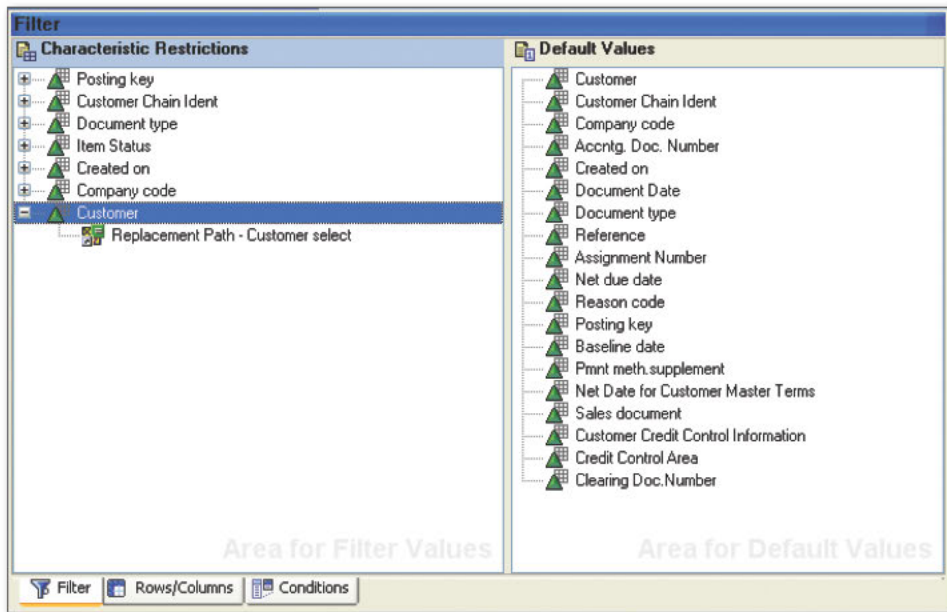

Figure 3 Customer Variable Assigned to Customer in Query 2
5. Assign the newly created variable to CUSTOMER in Query 2 (Figure 3). The filters or characteristic restrictions that are passed from Query 1 do not exist in Query 2.